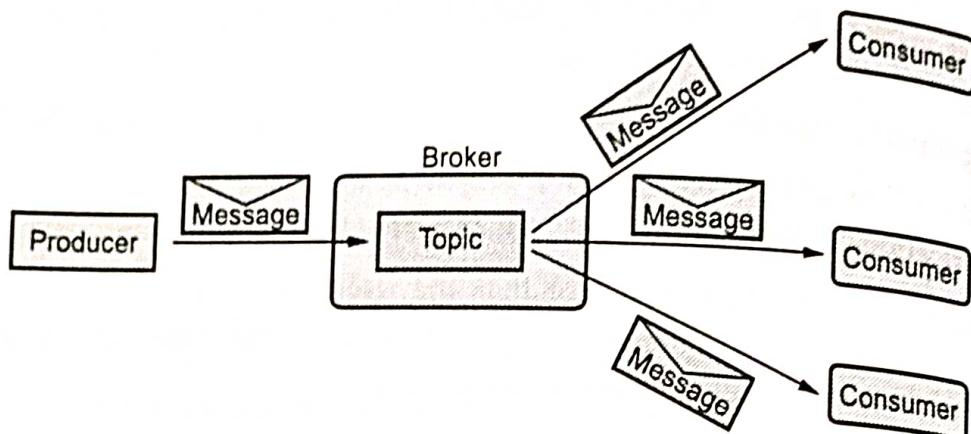

Fig. 4.2.2 Publish / Subscribe model
- Fig. 4.2.2 shows Publish/Subscribe Model.